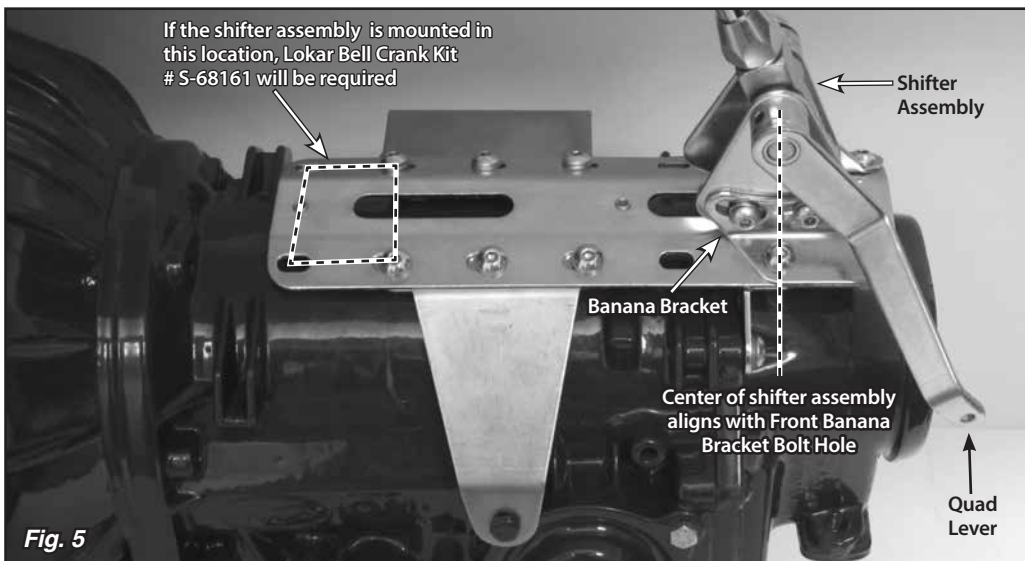

Fig. 5
**Step 8: (Continued)** Transfer that measurement to the transmission (or to the engine/transmission assembly if the engine is not installed in the vehicle). Mark that location on the main plate. The holes in the main plate that are closest to your mark are where the FRONT banana bracket bolts will need to be installed. **Fig. 5**
**NOTE:** If mounting the shifter assembly all the way forward, using the four bolt holes at the very front of the main plate, a bell crank kit (Lokar Part No. S-68161, sold separately) will be required. **Fig. 5**